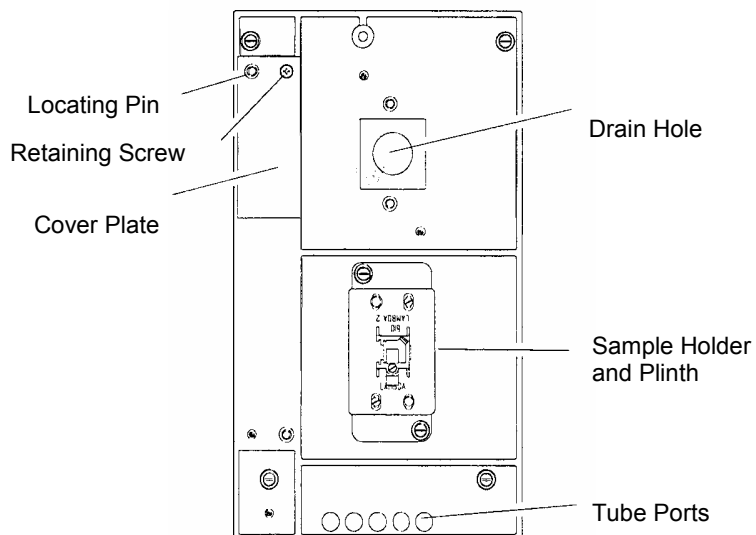

Figure 11 Lambda 800/900 Sample Compartment Baseplate
1. Orientate the holder so that the word **LAMBDA** is toward the front of the sample compartment (see Figure 11 below).